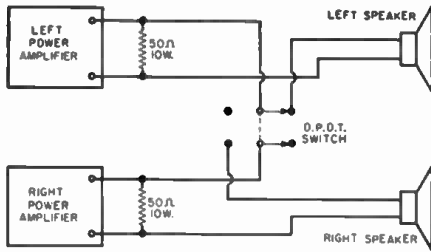

Fig. 2. An A-B switch used for balancing.
3. The third step is to provide for rapid switching between two conditions: left channel on and right channel off; or left channel off and right channel on. This enables one to compare the acoustic level of each speaker when reproducing the same signal. Some stereo control amplifiers, power amplifiers, and integrated amplifiers incorporate such an A-B switching facility. If not, the listener can install an A-B switch as shown in Fig. 2. Note the use of protective 50-ohm, 10-watt resistors to prevent possible damage to the output transformer when the
The foregoing balancing procedures assume that the stereo program source (disc, tape, radio) will have equal level in each channel. This, however, may not be true, although it will probably tend to be increasingly true as stereo techniques are improved. Where the two channels of the program source are of unequal level, this should be compensated by turning the balance control from its reference position, meanwhile using the amplifier facilities or the method of Fig. 2 for alternating the sound between the two speakers until the ear is satisfied that balance exists.